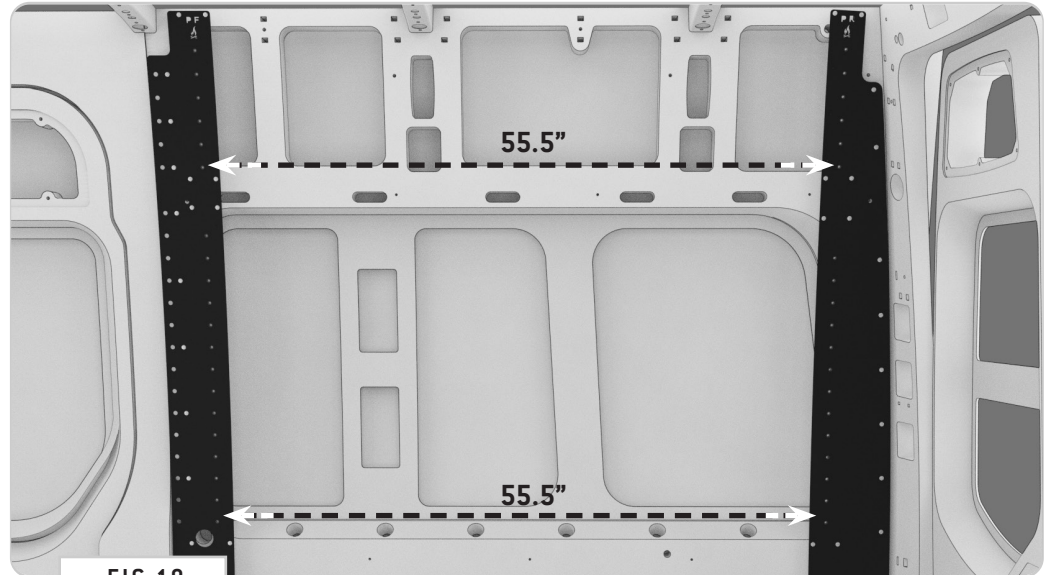

FIG 10
5.1 Measure Bracket Spacing: Once you have the Bed Brackets held in place, you'll need to confirm that the distance between rail mounting points are square at 55.5" slot-to-slot (**FIG 10**).